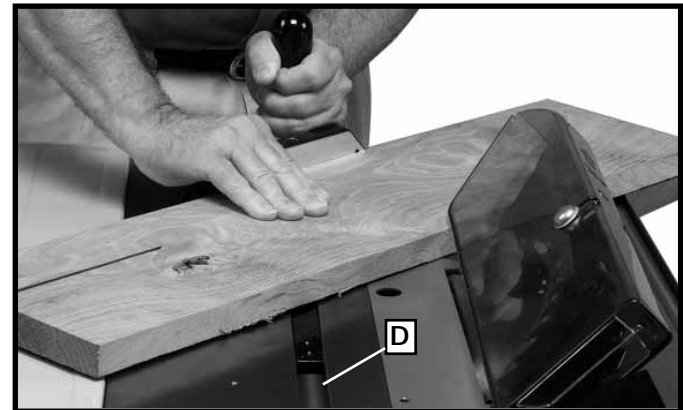

Fig. S7
Compound Mitering (shown in Fig. S7) is a combination of bevel crosscutting and mitering, where the blade is beveled to an angle other than 0 degrees and the miter gauge is locked at an angle other than 0 degrees. Always use the miter slot (D) which allows the blade to tilt away from the miter gauge and hands.